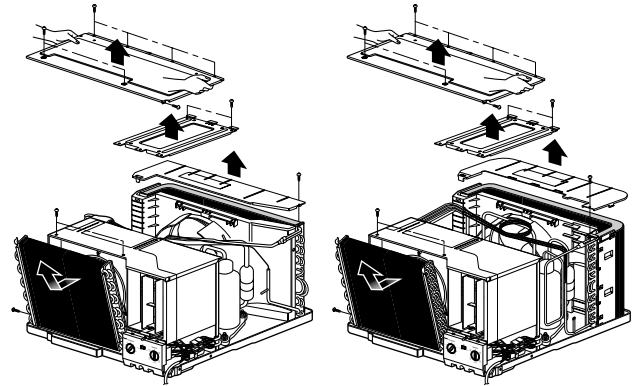

Figure 4
4. Remove the covers and the brace. (See Fig. 4)
2. Remove the 3 screws which fasten the evaporator at the left side and the top side. (See Fig. 4)